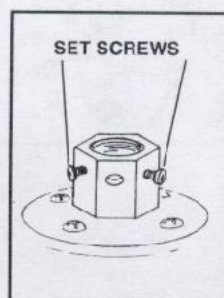

FIG. 7
Step 2. Loosen the two set screws in the top coupling of the top housing assembly. (Fig. 7)